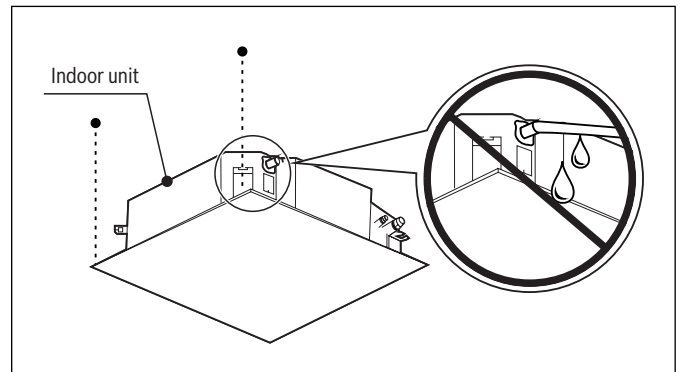

Figure 30
- g. Additionally, Ensure the condensate discharge pipe is not slanted so the float switch function properly (see Figure 30).